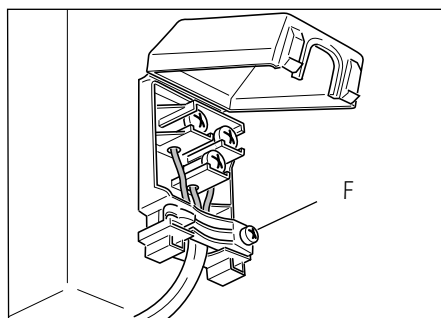

Fig. 6
- *Open the cable crimp by unscrewing screw "F" (Fig. 6), unscrew the terminal screws and remove the cable.*